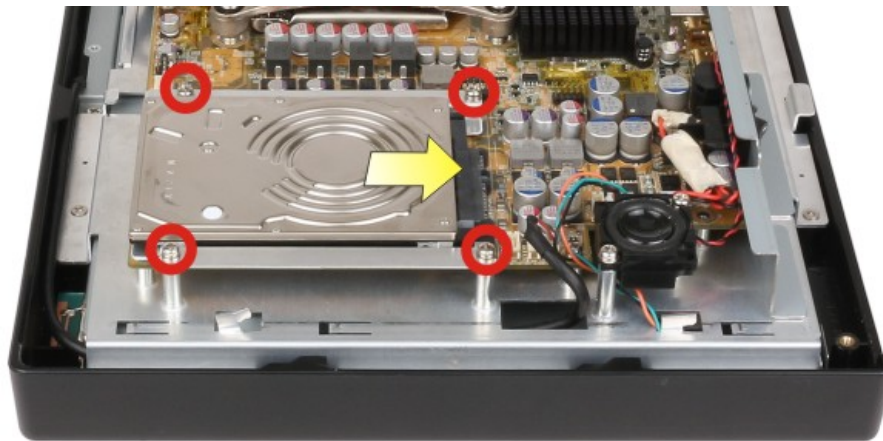

Figure 3-5: HDD Installation
Step 4: Align the SATA connector on the rear of HDD with the SATA connector on the motherboard, and then slide the HDD until it is connected to the SATA connector on the motherboard (**Figure 3-5**).
Step 5: Reinstall the four HDD bracket retention screws to secure the HDD bracket to the panel PC (**Figure 3-5**).